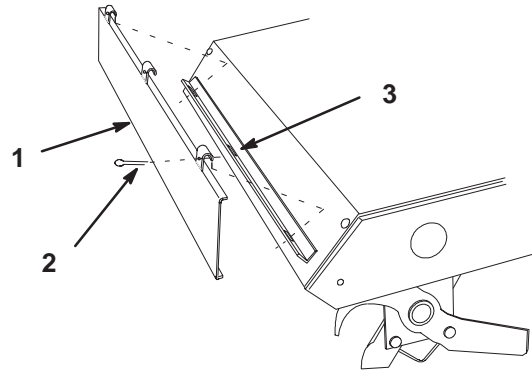

Figure 3
1. Rotate tiller down and hook rear shield into slots at rear of tine shield. Secure with 3 cotter pins (1 inch) (Fig. 3).